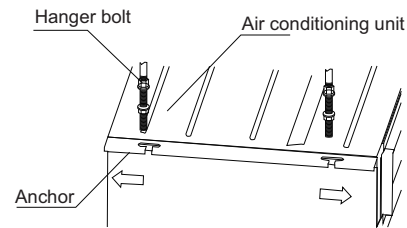

Fig. 51 – Hanger Bolt
2. Install the hanger on the indoor unit (see Fig. 51).